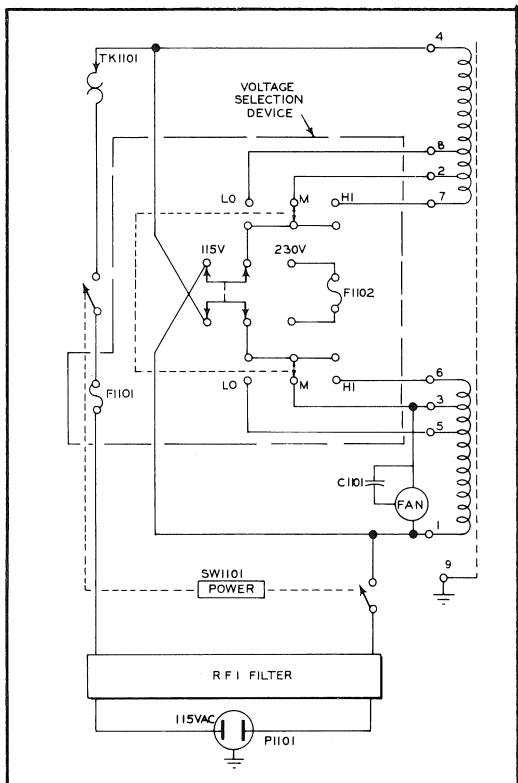

FIGURE 2.
Power transformer leads are terminated in the selector body. Rotating the 115V-230V selection plug 180° connects the primary windings in series or parallel configuration. Movement of the range selection plug to the left or right selects the transformer taps which accommodate the instrument to high, low, or medium (normal) line conditions. 115V and 230V line fuses (5), installed in the selector cover, are snapped into clips (6) in the selector body when the cover is installed. Red stubs (7) on the selector plugs project through apertures in the selector cover, indicating the combination of connections selected. The schematic for the 453 voltage selection is shown in Figure 2.